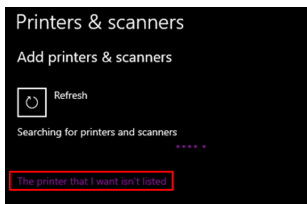

Figure 21
4. On the **Add printers & scanners** screen, click **The printer that I want isn't listed.** (Figure 21)